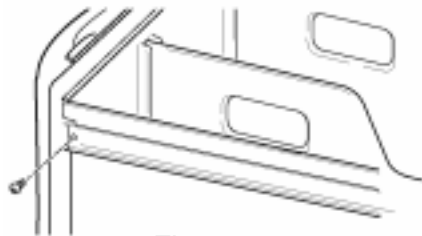

Fig. 2-3
1. Open the pedestal drawer. Remove the envelope taped inside the drawer. This envelope contains four (4) #12 x 5/8" (1.6 cm) hex head sheet metal screws that will be used in Steps 4 and 5.
2. Remove the Phillips head screw from both drawer sides and set the aside. (Fig. 2-3) Remove the drawer and set it aside. Push the slides back into the pedestal.